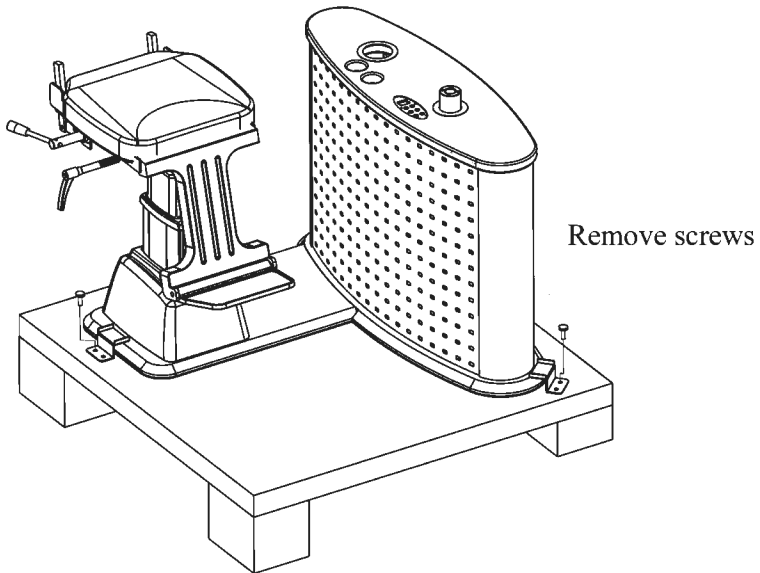

Figure.1
3) Take out the main unit from the wooden pallet. (See Figure 1)